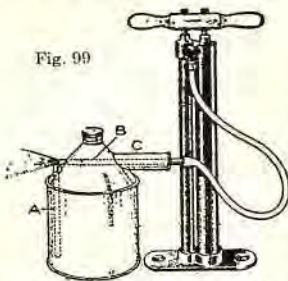

Fig. 99
A home-made spraying outfit similar to the one shown above consists of a 1/2-gal. oil can (Fig. 99) made into an atomizer by attaching a tire pump to the end of the air pipe (B). A piece of small brass pipe (A) is mounted in one side of the can, the upper end of it extending a short distance outside of the top. A second piece of pipe is mounted in a horizontal position in the top of the can, as shown at (B). If a handle is attached to the can, as at (C), the piece of pipe (B) may pass through it lengthwise and extend a short distance beyond the end of the handle. Both pipes are soldered to the top of the can, and the screw top is provided with a gasket to make it tight.